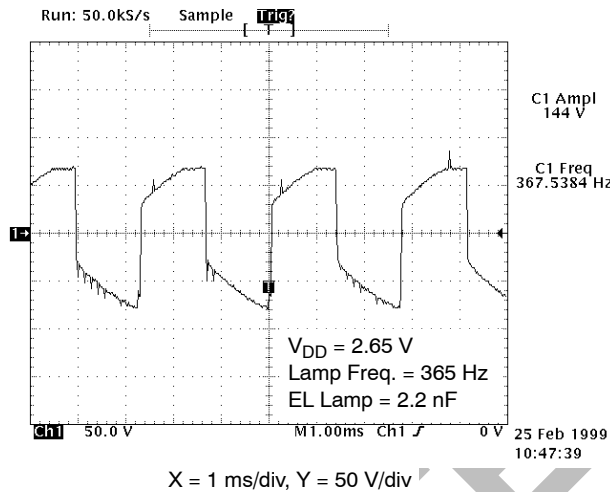
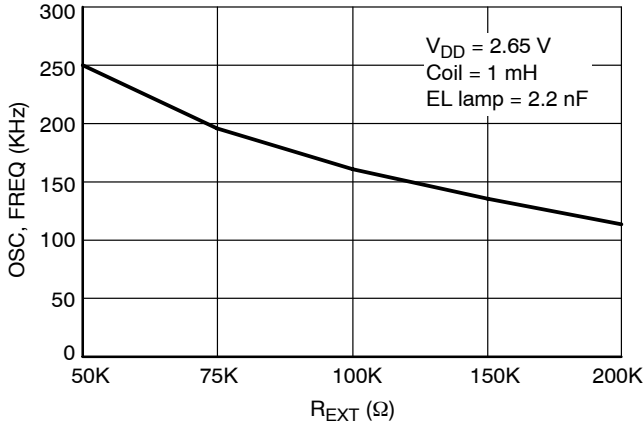

Figure 3. Output Waveform versus Time
Figure 4. Oscillator Frequency versus REXT
Since the fundamental frequency of the oscillator is set by the external resistor (R1), the temperature coefficient of the frequency is dominated by the value of this resistor. A low temperature coefficient (TC) resistor is suggested to use for keeping the variation of oscillator's frequency low against the operation temperature range. (See Page 4, Fig. 3 & Fig. 4)